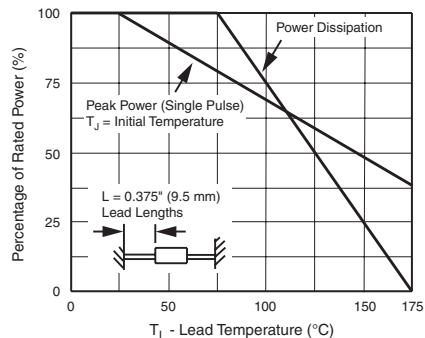

Figure 2. Power Derating Curve
(1) Non-repetitive current pulse, per Fig. 3 and derated above  $T_A = 25\text{ °C}$  per Fig. 2
(1) Non-repetitive current pulse, per Fig. 3 and derated above  $T_A = 25\text{ }^\circ\text{C}$  per Fig. 2